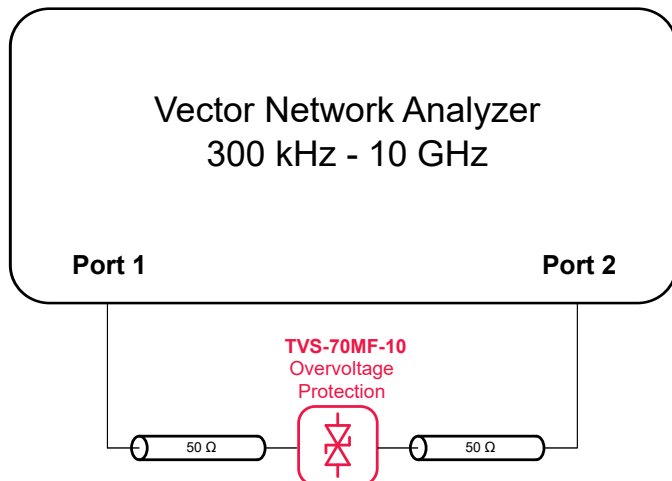

Figure 10: S-Parameter test setup
- Connect the TVS-70MF-10 to a vector network analyzer as shown in Fig. 10.